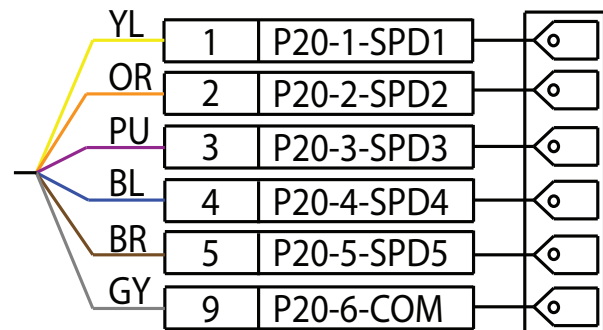

Fig. 38 — Constant Torque ECM Pin Diagram
3. Change the torque tap wire to on the molex plug to one of the five speed settings. See Fig. 38.